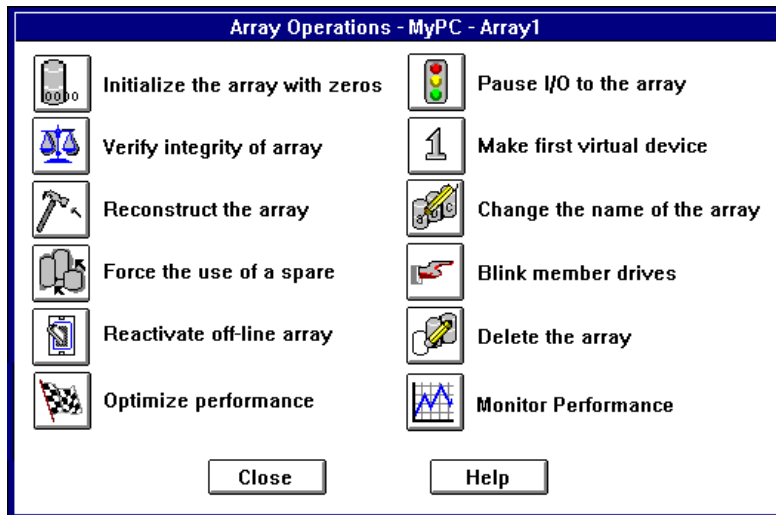

Figure 5-1. Array Operations Dialog Box
- 8 Click the **Operations** button. The Array Operations dialog box appears, as shown in Figure 5-1.